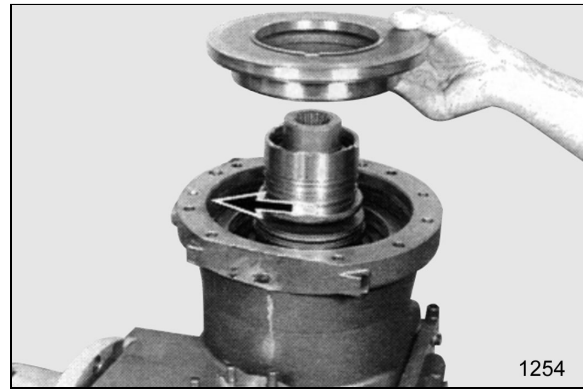
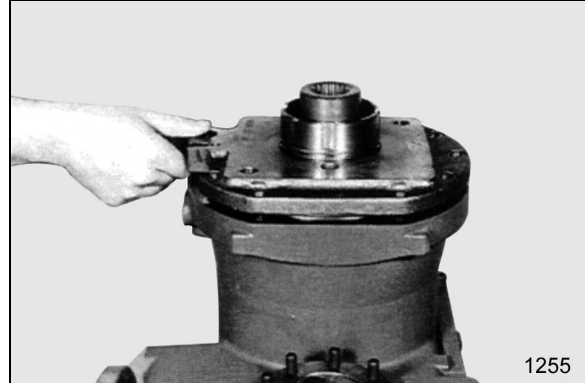

Figure 201
Figure 202
13. Install backup ring and seal ring in ring groove of housing; oil the rings. Install piston evenly against shoulder using measuring cover and socket head screws, then remove measuring cover. See Figure 201 and Figure 202.